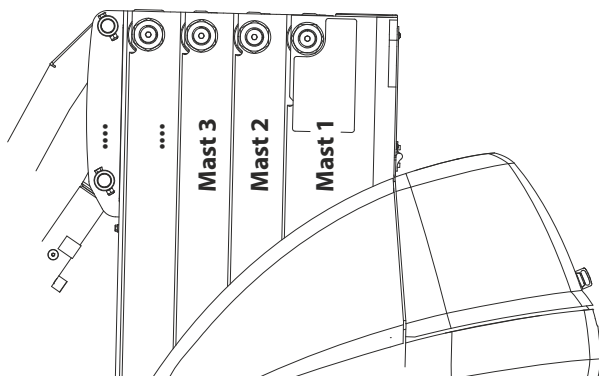

Figure 5-22. Top Rollers Mast Configuration
1. Ensure mast is fully lowered prior to completing top roller setting procedure. Refer to Figure 5-22. for mast configuration/terminology.